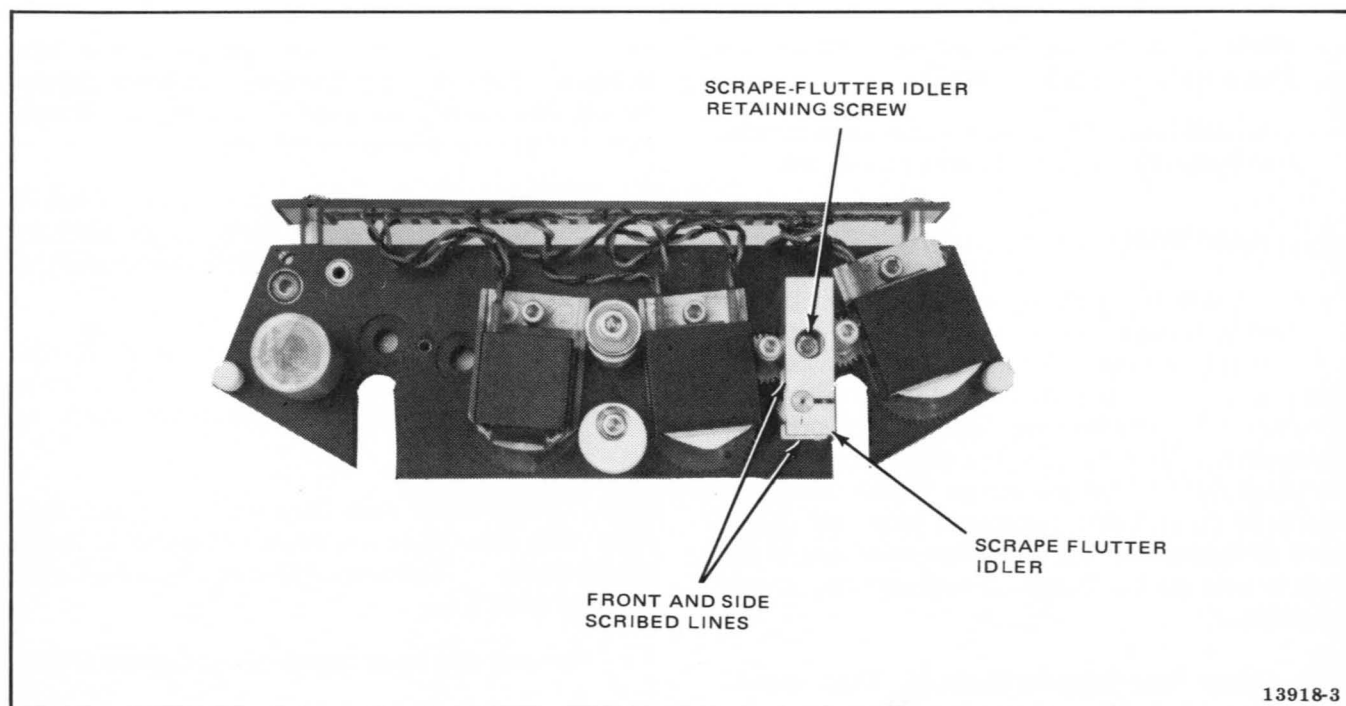

Figure 5-1. Top View of Head Assembly, Head Shield Removed
3. Loosen scrape flutter idler retaining screw shown in Figure 5-1 and remove idler from head assembly base.
6. With upper bearing clamp screw still loose, remount idler on to the head base plate with front and side of yoke even with the two scribed lines on the base plate (Figure 5-1).